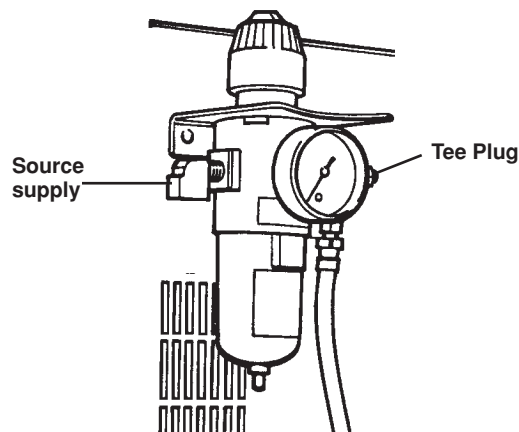

Figure 3-6 Shield Gas Power Supply Connections and Air Plasma Gas Connection
2. When using **air** as the plasma gas, connect hose from **SOURCE SUPPLY** to the connector located on the left of the regulator on the rear of the power supply. (Fig. 3-6) Remove **TEE PLUG** on right side of regulator, and connect 0.5 m hose (#024373) from the tee to the **PLASMA GAS** inlet on the plasma gas console. (Fig. 3-6, 3-4)
3. *If you are **not** cutting with an H35-N₂ mixture, skip this step (3).*
1. When using **air, nitrogen** or **carbon dioxide** as the shield gas, connect hose from **SOURCE SUPPLY** to the connector on the left of the regulator on the rear of the power supply. (Fig. 3-6)